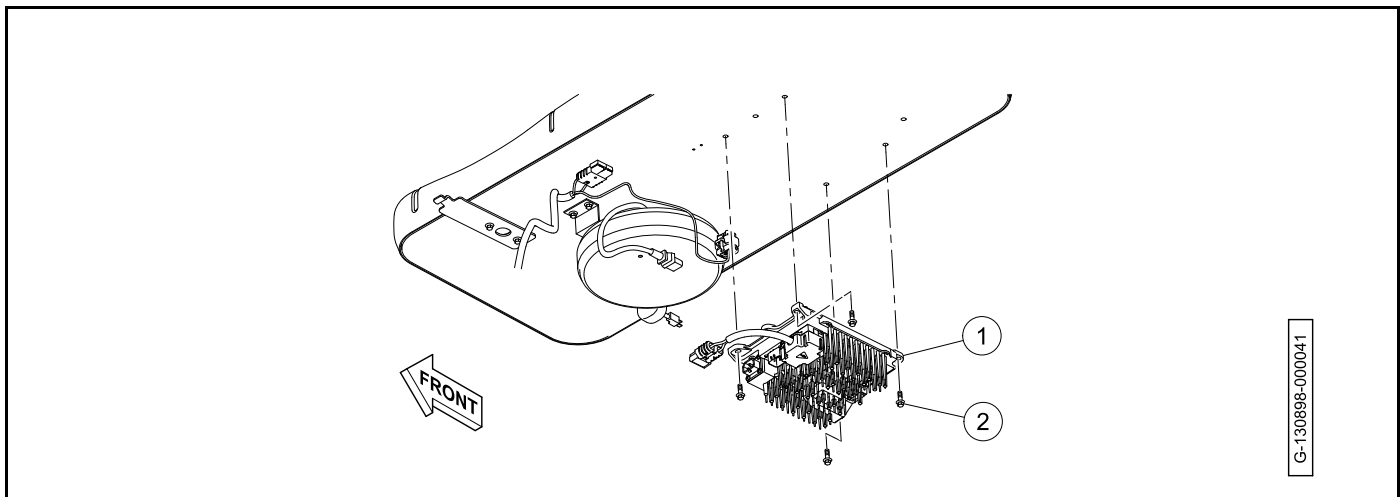

Figure 15-36 Battery Charger Installation
1. Install the battery charger (1) and the bolts (2) (Figure 15-36). Tighten the bolts to 53 in·lb (6 N·m).